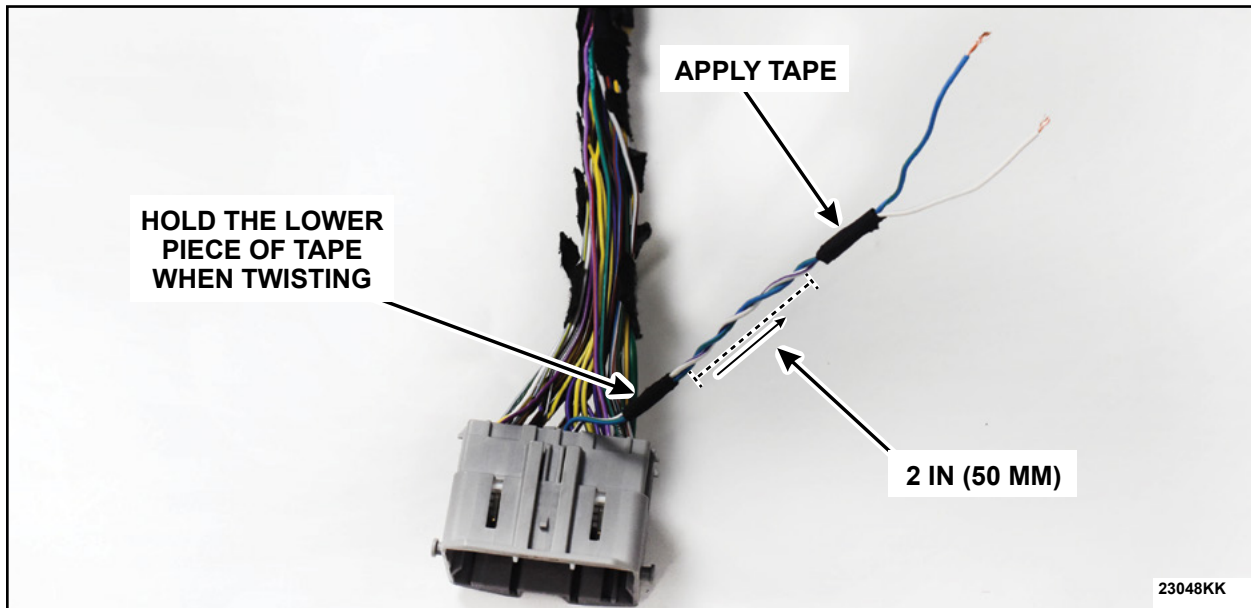

FIGURE 13
13. Measure 2 in (50 mm) up from the first piece of electrical tape applied and apply another piece of electrical tape. Holding the lower piece of electrical tape twist the pair of wires four (4) times. See Figure 13.